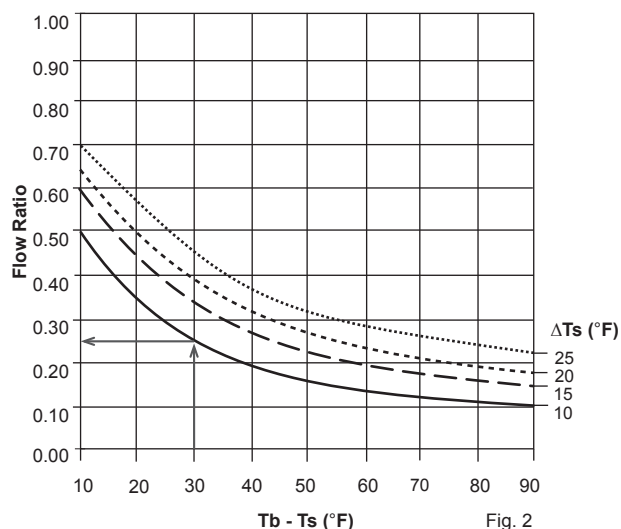

Fig. 2
- 3) Compute $T_b - T_s$. Look up the flow rates on figure 2.